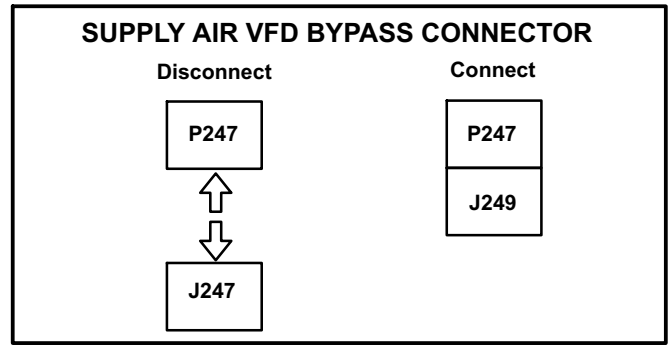

FIGURE 4
3. Disconnect P247 from J247 and connect J249 to P247. See figure 4.